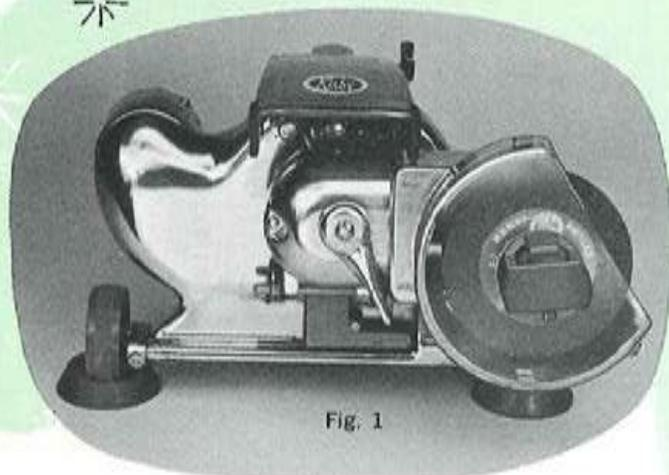

Fig. 1
As the first step in lifting the belt for attachment, turn the name plate so the lever arm is upright. (See Figure 4). Then look through the round opening at the back of the nozzle and make certain that the belt is standing upright in the center of the brush. Also check the position of the belt on the brush roll by looking at the bottom of the nozzle. It should be in the center. Then turn the name plate counter-clockwise until it stops in position as illustrated in Figure 3. This is the "OFF" position. When the belt is new, it will take a firm pressure to complete the turn. In turning the Belt Lifter to the "OFF" position you automatically pick up the belt on the metal finger and lift it so the Belt Drive Shaft can pass through the loop. (See Figure 1). Your nozzle is now ready for attachment to the motor unit (see page 16). Once it is attached turn the name plate clockwise so the lever arm is again upright. This is the "ON" position and the belt will be properly in place on the Belt Drive Shaft.
STEP 3: Place Attaching Slots at back of Rug Nozzle on the Attaching Bar. (see figures 1 and 2). Swing nozzle back toward Motor Unit with a slight downward pressure so as to depress the Safety Switch Slide (see figure 2). Hold nozzle in place with one hand and lock in place with Attachment Lock Lever at top-front of Motor Unit. (see figure 3).
Remove the rug nozzle and Sani Em-Tor and bag from the Kirby. The renovator tray attaches to the nozzle assembly (figure 1) by sliding the renovator tray into the slots at each end of the nozzle assembly. Turn the belt lifter to the "off" position and attach the renovator nozzle to the front of the Kirby motor unit the same way you attached the rug nozzle. (See Upright assembly instructions page 16.)